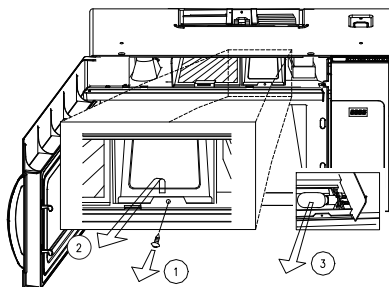

FIGURE 4
3. Remove a screw (1) for lamp cover.(See Figure 4.)
4. Pull out the Lamp cover. (See Figure 4.)
7. Replace lamp cover and secure it with the screw (1).